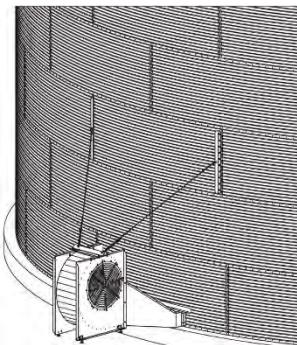
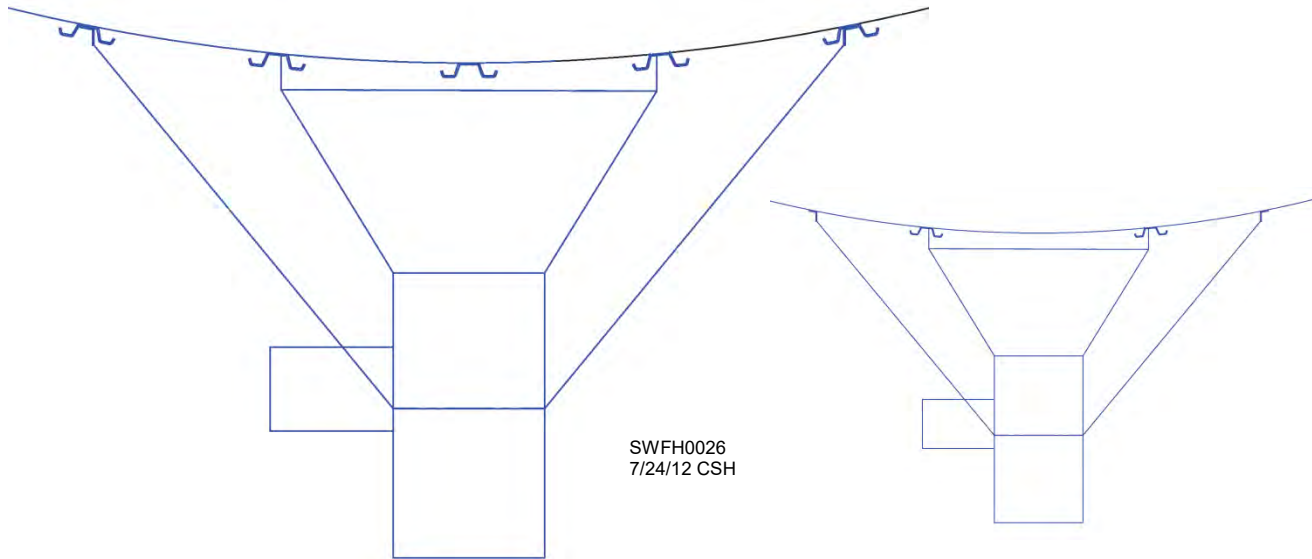

Fig. 3 – Centrifugal fan suspended by cables
Fig. 7 – Attaching brackets to bin with four or two stiffeners per sidewall sheet
3. Attach bin brackets. Use 3/8-16 x 1-1/4" bin bolts with washers and 3/8" flange nuts. Brackets (Item 7, D6150) should be placed vertically in middle of sidewall panels in third ring of wide-corrugation bins, using bolts connecting sidewall panels. See Fig. 3. On narrow-corrugation bins, middle of bracket should be 110 inches from foundation. Brackets should be equidistant from fan as shown in Fig. 7. On bins with four stiffeners per sidewall sheet, brackets should be placed inside of stiffeners as shown in Fig. 7. If there are no stiffeners (as in Fig. 3) or only two stiffeners per sidewall sheet, bin brackets should be placed vertically in middle of seams between sidewall panels. Field-drill 7/16" holes in bin sidewall, using bracket as a guide. Drill top and bottom holes first and loosely bolt bracket to sidewall while drilling remaining holes. Place a bolt in every hole in bin brackets and tighten.